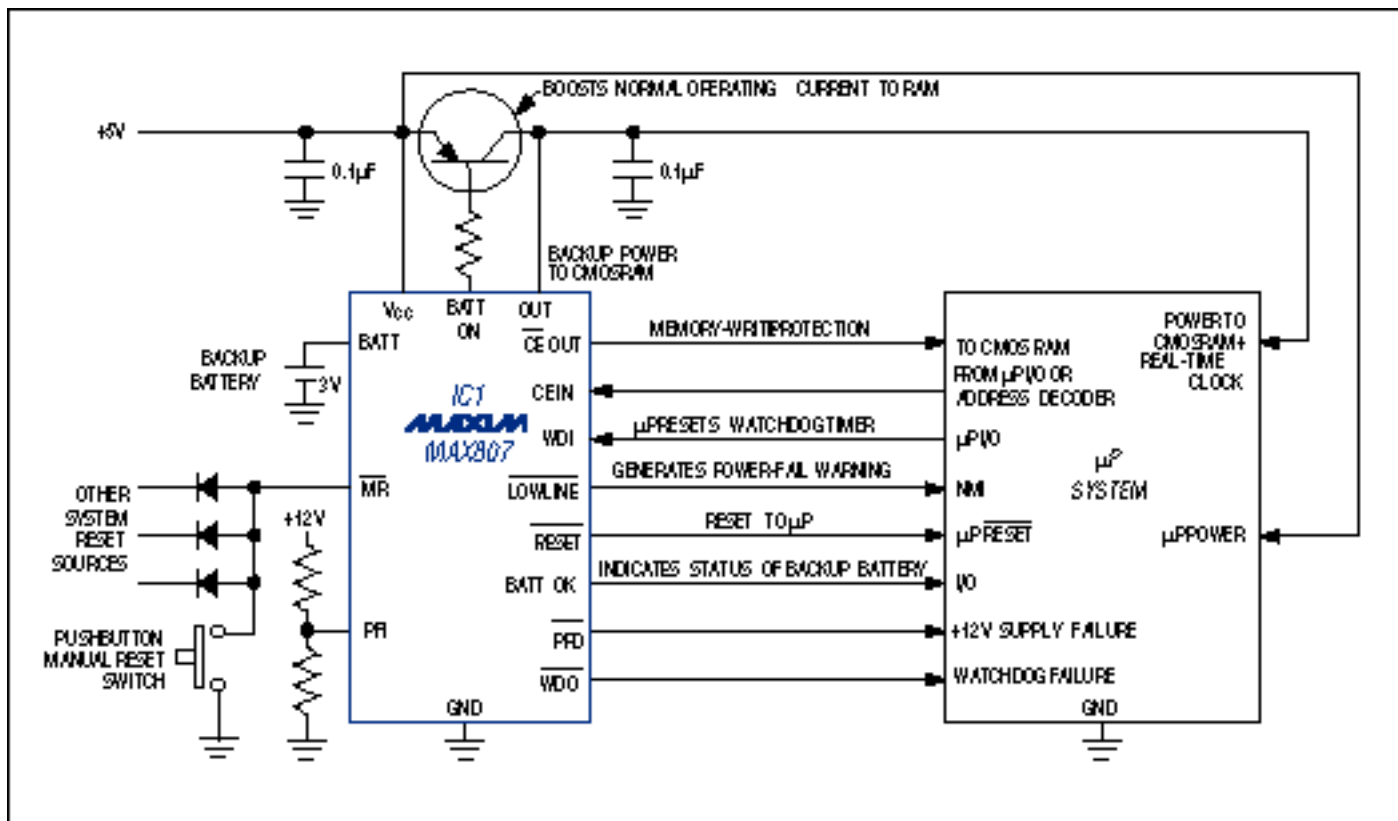

Figure 1. A feature-laden  $\mu P$  supervisor (IC1), with the help of the  $\mu P$  itself, performs a variety of functions in this typical application circuit.
*To ensure correct operation, most microprocessor-based systems require supervision during power-up and power-down, and when entering or exiting shutdown or sleep mode. The supervisor may only provide a power-on reset, or it may offer additional functions, such as backup-battery management, memory-write protection, low-line early warning, or a software watchdog (Figure 1).*